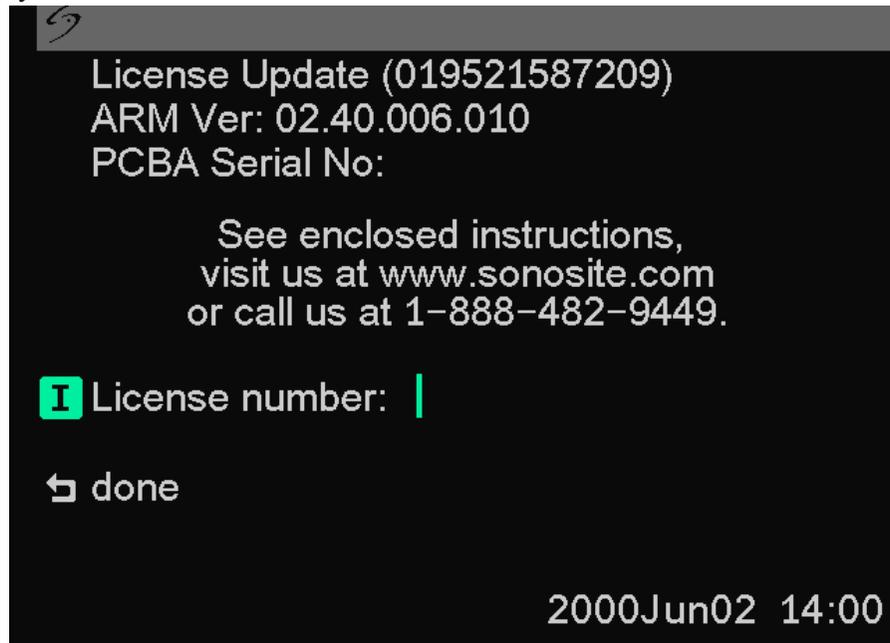

Figure 4.4 License Update Screen
1. Turn on the system. If the software is not yet licensed, the license update screen displays (Figure 4.4).